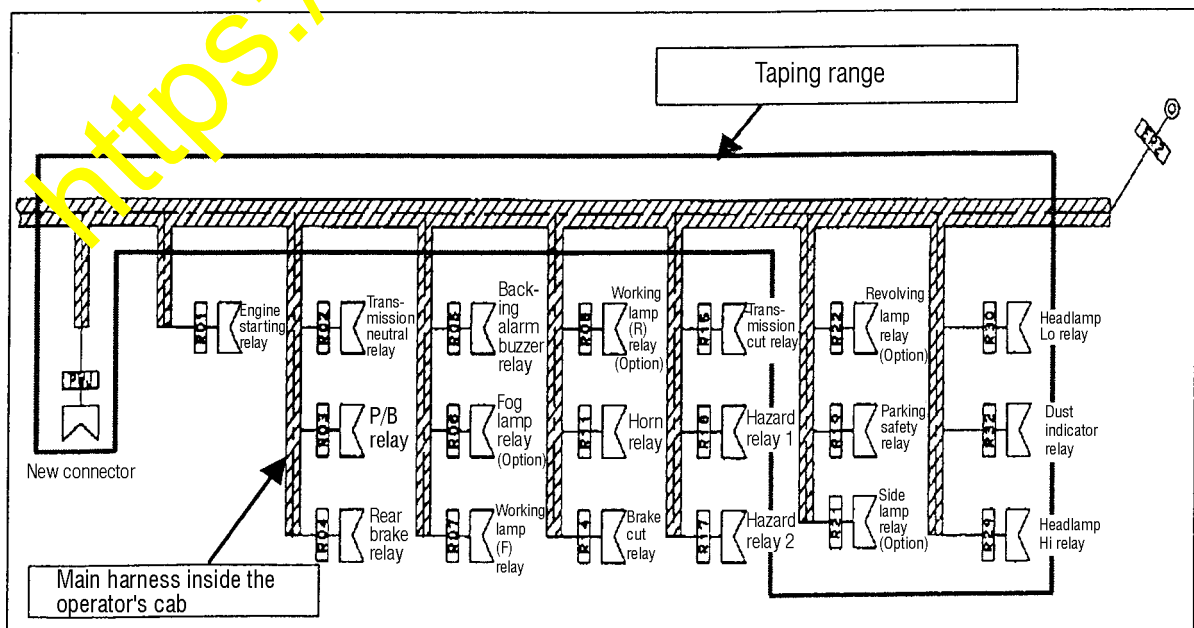

Fig. 18
- (ii) Apply insulation taping to the excess leads which became excessive by the above change of the relay layout and to the leads separated as per the above Section 4-3B(2). (Tape No.: 08024-91920) (Refer to Fig. 18)